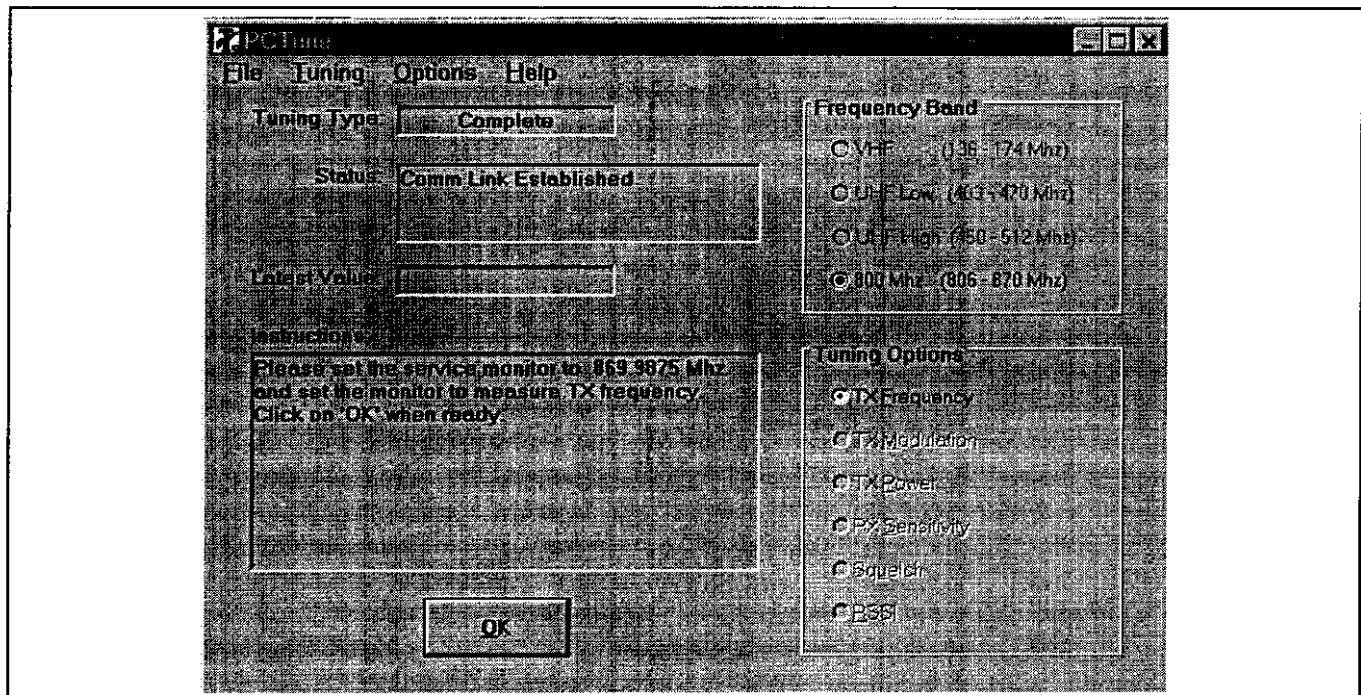

Figure 6-3 Tuning Software Screen (800 MHz Models)
4. Start the program as described in the preceding section. Select Options > Set Com Port and make sure that the correct serial port is selected (see screen in Figure 6-3).